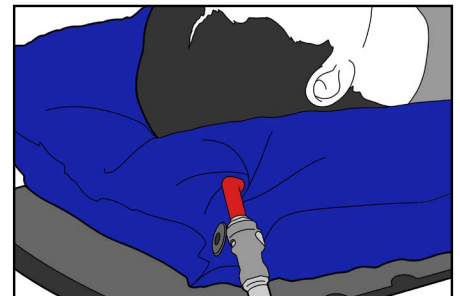

Fig. 9
3. Place the patient onto the cushion and begin to vacuum out the air. Shape the cushion around the patient as needed. The cushion must still be moldable but relatively hard (Fig. 9).